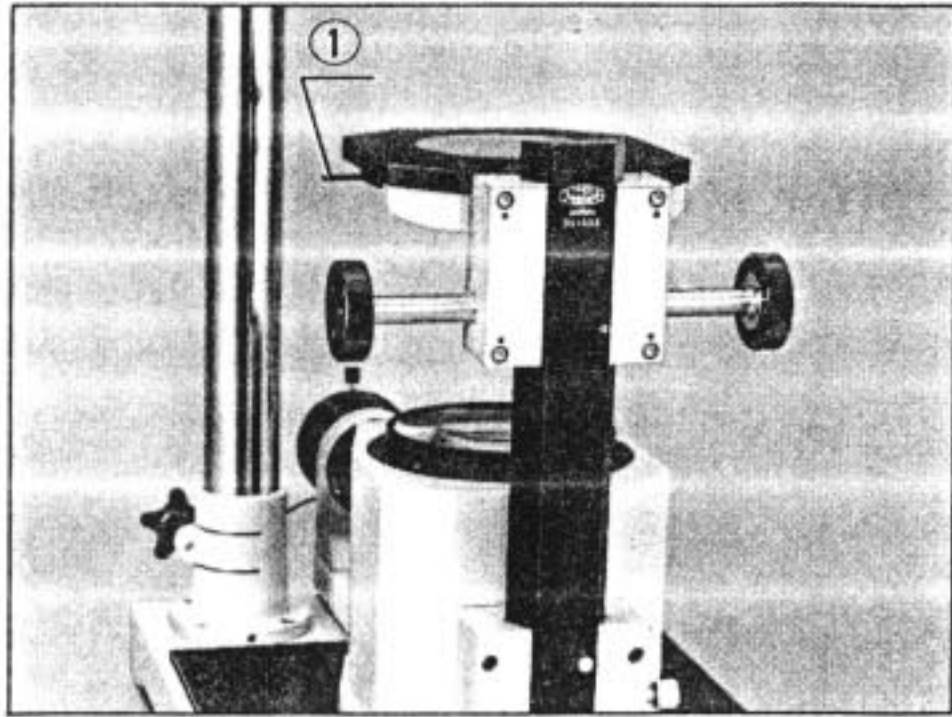

Fig. 19
The substage iris diaphragm is used as a field diaphragm which should be properly stopped down by the lever ① to cut off extraneous light entering from outside the field of view. (Fig. 19)